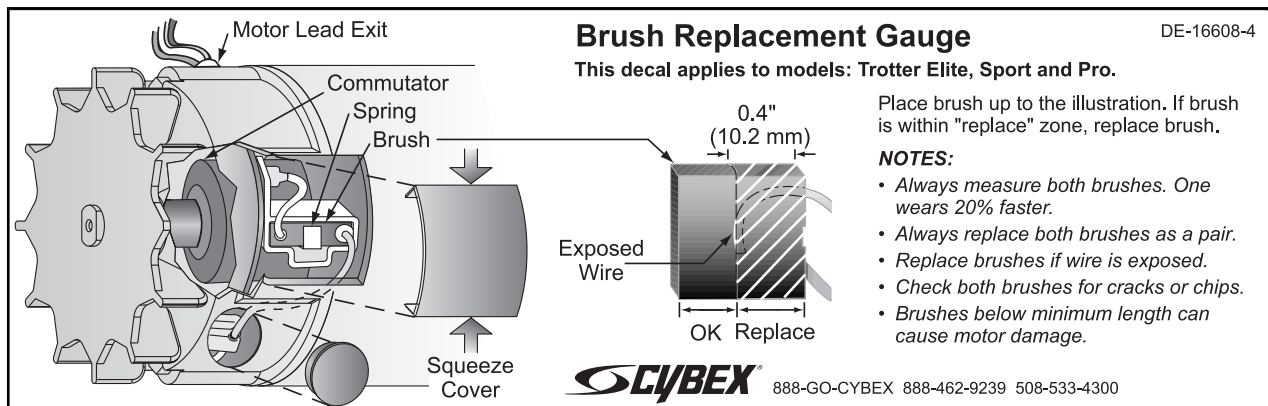

Figure 15
- A. Squeeze each of the two rectangular brush covers to remove it from the motor. See Figure 15.
- B. Lift off the round brush cover. See Figure 15. If necessary carefully pry the cover up using a flathead screwdriver.
- B.** Inspect the brushes for signs of excessive wear or cracks. The motor brushes must be replaced if one or both is worn to 0.4" (10.2 mm) or less in length, is broken or chipped, has a broken spring or binds in the motor. **NOTE:** *For your convenience the decal shown in Figure 15 is under the motor hood cover.*